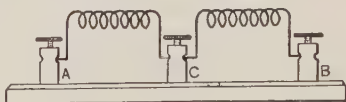

FIGURE 389. — RESISTANCE FRAME.
**EXPERIMENT 100.** — Cut off a piece of insulated copper wire # 28, a little over 4 meters long. Scrape the insulation off the ends, and connect them to the two outer binding posts, *A* and *B*, Figure 389, so that there shall be exactly 4 meters of wire between the binding posts. Find the exact center of the wire, scrape off the insulation, and clamp in it the center binding post *C*. Connect a dry cell to the two outer binding posts, so that the current shall be sent through the entire 4 meters of wire. Connect the terminals of a voltmeter to one end binding post and to the center binding post. Record the voltage required to send the current through the 2 meters of wire. Then connect the voltmeter to the two outside